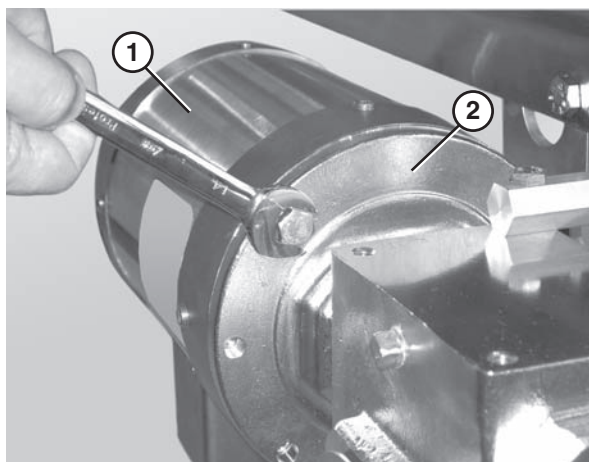

Figure 68
2. Remove the bolts that connect the motor to the drive assembly (**Figure 68**).
3. Remove the motor (**Figure 68**, item 1) from the drive assembly (**Figure 68**, item 2).